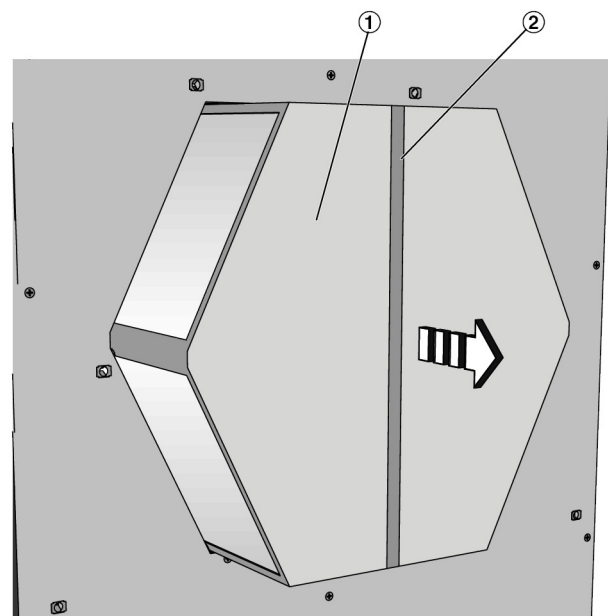

Fig. 34: Removing the heat recovery unit
3. ▶ Grasp the heat recovery unit (Fig. 34/1) by the lug (Fig. 34/2) and pull it out.
Rinse the heat recovery unit (Fig. 34/1) with hot water (40 °C max.), e.g. by using a commercially available shower head.